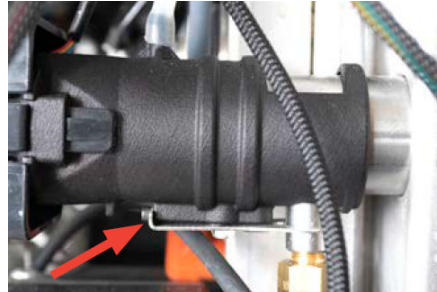

Figure 14
- 4) The blower assembly twists onto the burner and is held in place with a bracket (see Figure 14).